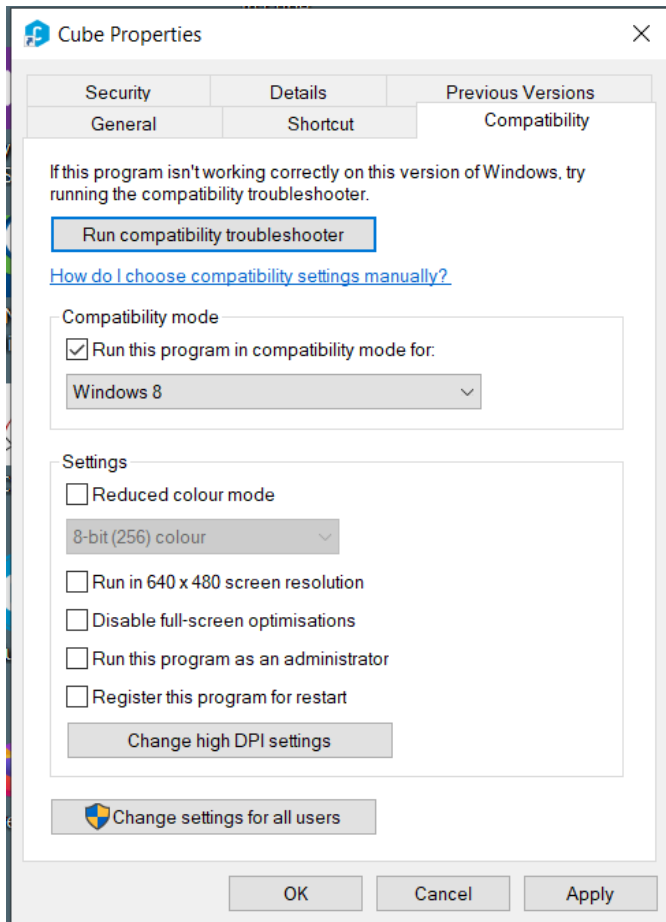

Figure 1 Compatibility mode "Windows8" for Cube
- Set the properties for Cube program according to Figure 1. Please ask for support from IT if it requires special administration rights or the settings change when restarting the machine.